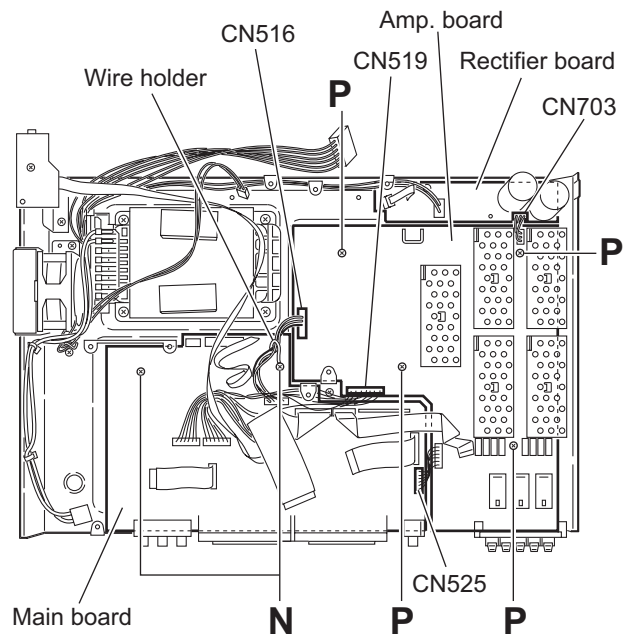

Fig.15
3.1.11 Removing the main board (See Fig.15)
3.1.12 Removing the amp. board (See Fig.15)